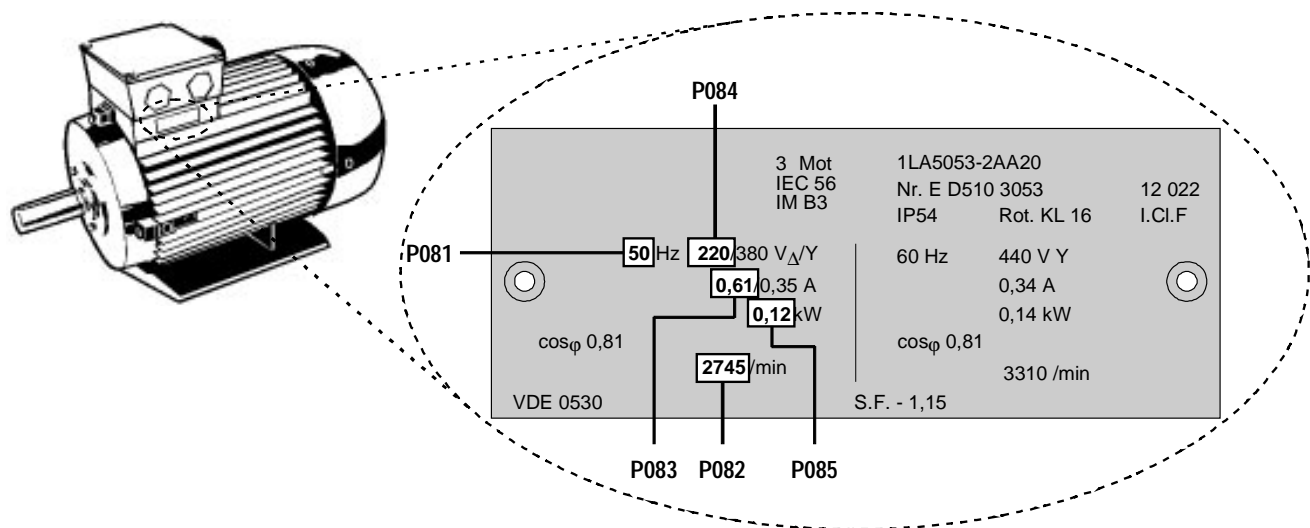

Figure 10: Typical Motor Rating Plate Example
- (1) The inverter does not have a main power switch and is live when the mains supply is connected. It waits, with the output disabled, until the RUN button is pressed or for the presence of a digital ON signal at terminal 5 (rotate right) or terminal 6 (rotate left) - *see parameters P051 - P053*.
- (2) If output frequency is selected to be displayed (P001 = 0), the corresponding setpoint is displayed approximately every 1.5 seconds while the inverter is stopped.
- (3) The inverter is programmed at the factory for standard applications on Siemens four-pole standard motors. When using other motors it is necessary to enter the specifications from the motor's rating plate into parameters P081 to P085 (*see Figure 10*). **Note: Access to these parameters is not possible unless P009 has been set to 002 or 003.**
- (1) Connect control terminal 5 to terminal 8 via a simple on/off switch. This sets up the motor for clockwise rotation (default).
- (2) Apply mains power to the inverter. Set parameter P009 to 002 or 003 to enable all parameters to be adjusted.
- (3) Check that parameter P006 is set to 000 to specify digital setpoint.
- (4) Set parameter P007 to 000 to specify digital input (i.e. DIN1 (terminal 5) in this case) and disable the front panel controls.
- (5) Set parameter P005 to the desired frequency setpoint.
- (6) Set parameters P081 to P085 in accordance with the rating plate on the motor (*see Figure 10*).
- (3) Apply mains power to the inverter. Set parameter P009 to 002 or 003 to enable all parameters to be adjusted.
- (4) Set parameter P006 to 001 to specify analogue setpoint.
- (5) Set parameter P007 to 000 to specify digital input (i.e. DIN1 (terminal 5) in this case) and disable the front panel controls.
- (6) Set parameters P021 and P022 to specify the minimum and maximum output frequency settings.
- (7) Set parameters P081 to P085 in accordance with the rating plate on the motor (*see Figure 10*).